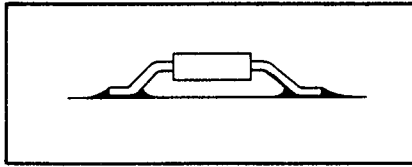

Figure 4-21. SOIC Soldering
- o On an SOIC or flatpack device the solder joint should extend the full length of the portion of the lead that makes contact with the pad. The lead outline should be clearly visible under the solder. See Figure 4-21.